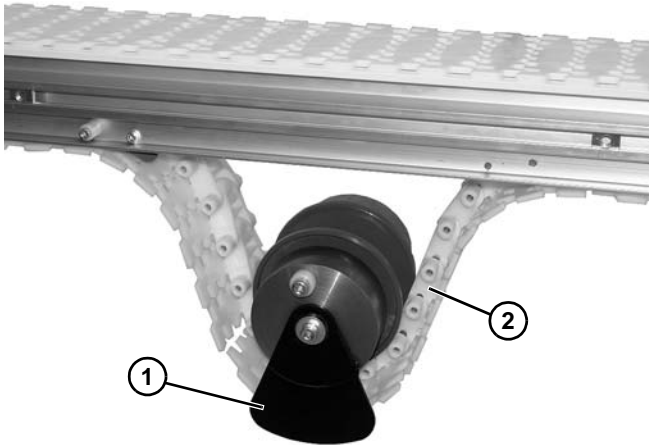

Figure 62
1. Install idler pulley assembly (Figure 62, item 1) onto belt (Figure 62, item 2).